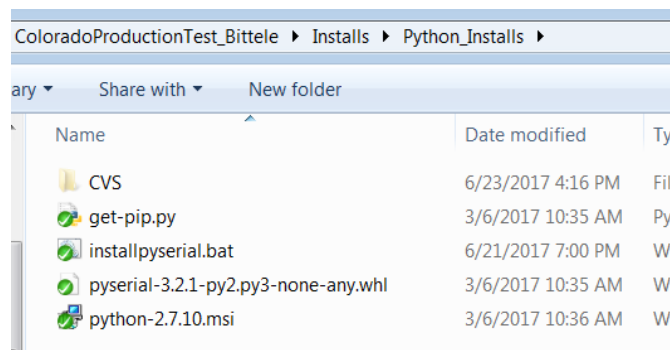

Figure 6: Install files for Python.
- b. Run **installpyserial.bat**. This file will automatically install the required serial libraries. See Figure 6.